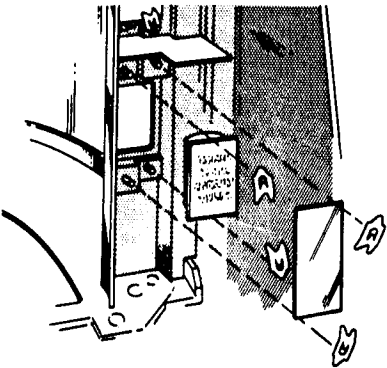

Figure 4.
Turn the motor manually until the latch bar lever drops to the credit step of the cam and then reverse the direction until the point of the lever is against the vertical part of the cam as shown in Figure 4 above.
- 2. In the 2-credit position, the lower left credit window lights up to indicate "10¢ Credit - Another Coin Required". This credit window, *Part No. 505553* is available from your Seeburg Distributor and is installed as shown in *Figure 4*.